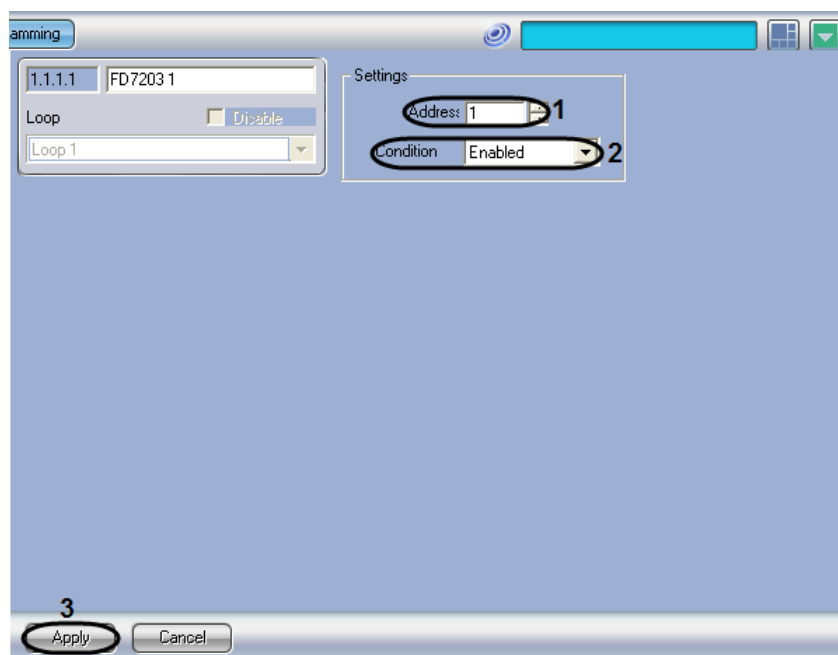

Fig. 3.6—2 Configuring the FD7203 addressable module
2. Enter the CAN network address of the FD7203 module into the “Address” field (see Fig. 3.6—2, 1).
3. Select Enabled/Disabled in the “Condition” field (see Fig. 3.6—2, 2).